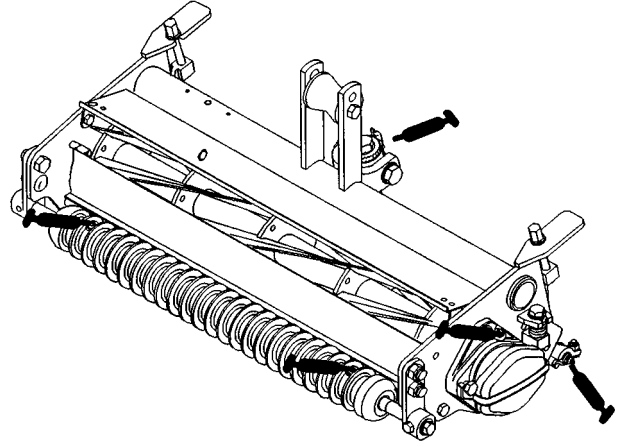

Figure 5
The grease fitting locations and quantities are: Reel bearings (2) and front and rear rollers (2 ea.) (Fig. 5)